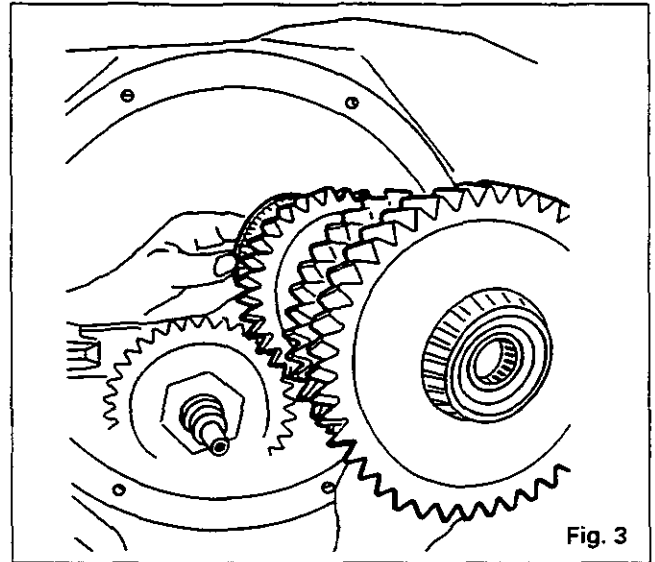

Fig. 3
6. Remove the deflector (50), the shims (51) and the cup (52). Withdraw the shaft assembly (Fig. 3).
7. Extract the bearing cones (53) and (63).